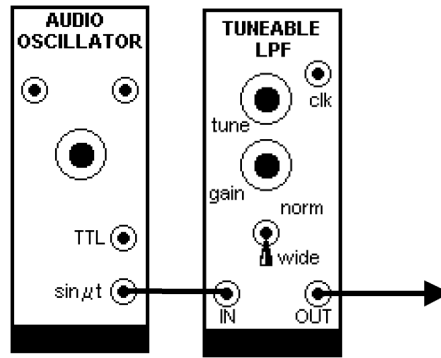
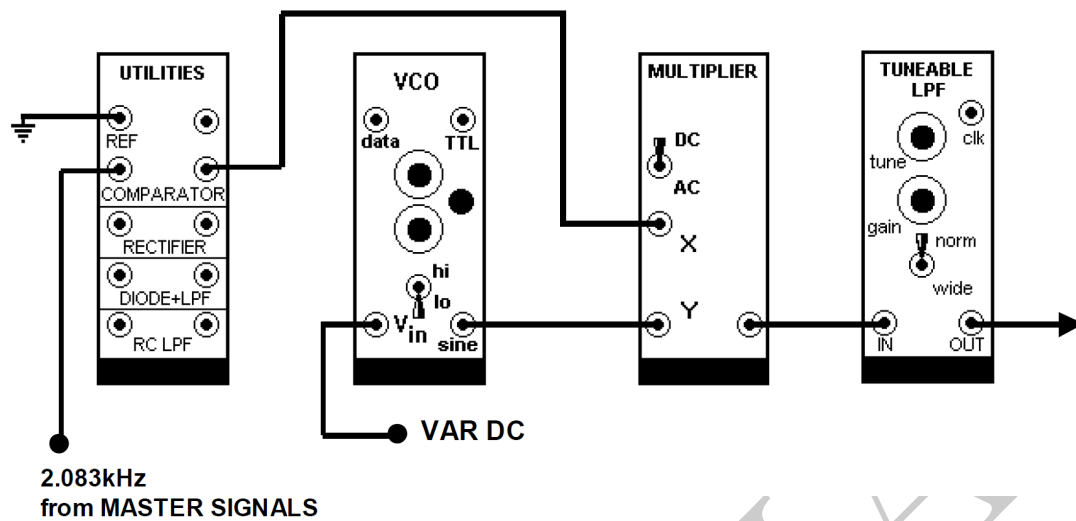

Figure 2: Task 1 - Response of Low Pass Filter
Figure 5: Task 3 - Wave Analyzer
1. Connect the circuit according to Figure 2. Reduce the frequency to the minimum setting of the AUDIO OSCILLATOR (around 250 Hz). Set the range switch to Normal position in order to allow tuning up to 5 kHz (Wide position allows up to 12 kHz). Vary the cut-off frequency by setting the TUNE knob of LPF module 9 o'clock position. Also, vary the filter gain by setting the GAIN knob to around 12 o'clock position.
1. Setup the TIMS model in Figure 5. Note that this is essentially the same as in Task 3, except for the signal under test, which is a square wave, generated with the model in Figure 2.